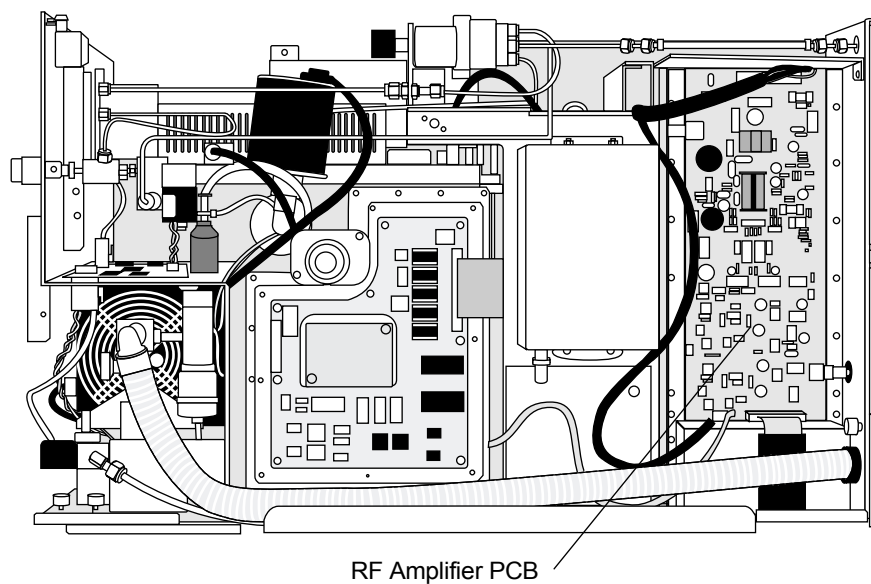

Figure 7-4. Right Side of GCQ Plus with Cover Removed, Showing the RF Amplifier PCB
4. Remove the metal cover of the RF Amplifier PCB. Figure 7-4 shows the location of the RF Amplifier PCB.